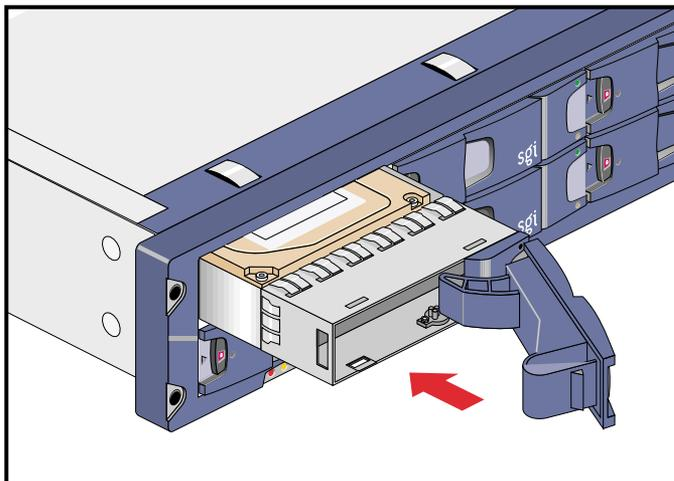

Figure 14-14 Carrier Camming Lever
6. Gently slide the carrier all the way into the enclosure until it is stopped by the camming lever on the right of the carrier, as shown in Figure 14-14.